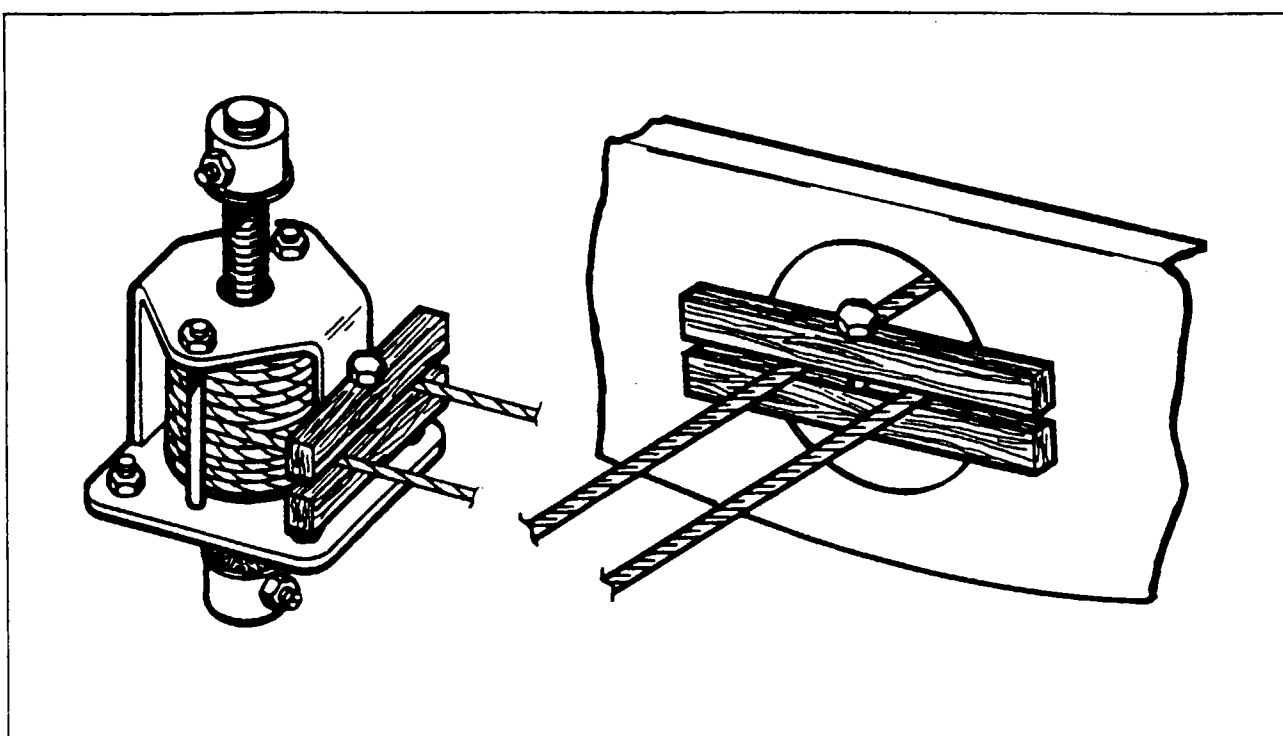

Figure 4-2. Methods of Blocking Trim Cables
3. Remove the access panels at the aft section of the fuselage. Block the elevator and rudder trim cables ahead of the main spar and in the aft section of the fuselage to prevent the cables from unwrapping at the trim drums. Refer to Figure 4-2. Disconnect the elevator and rudder trim cables at station 308 and draw the cables forward through the main spar. To allow the cables to be drawn through the fuselage, remove the cable guard at station 243 and rub blocks at stations 162, 174 and 215.